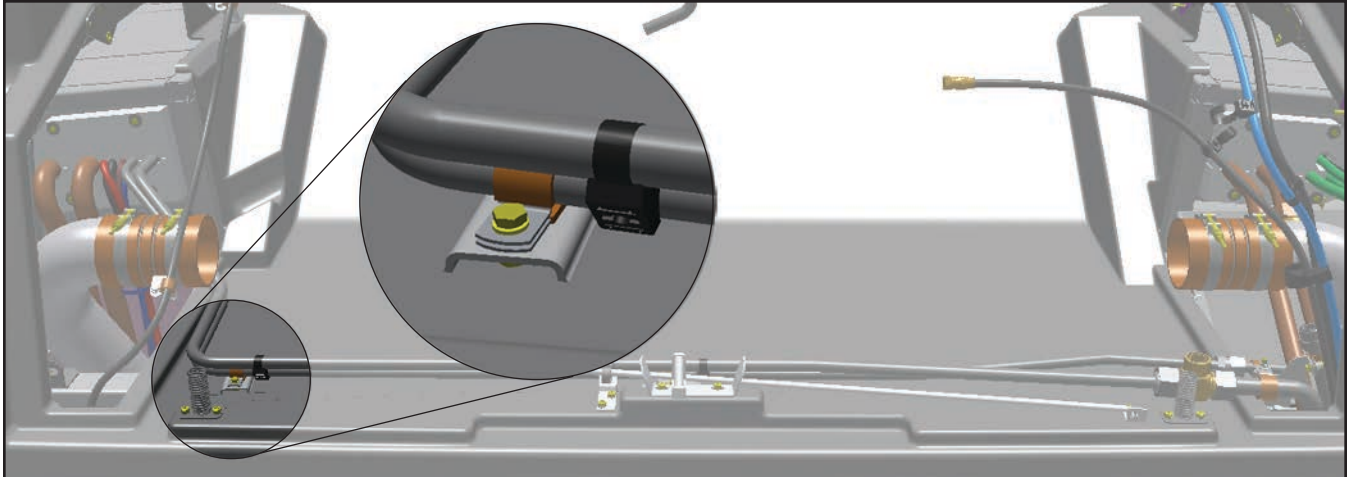

Figure 4 - Hydraulic Pipe Brackets
- 1.15. Make sure that the hydraulic pipe brackets, located in rear portion of the radiator compartment, are still bonded to the rear shell. See Figure 4.